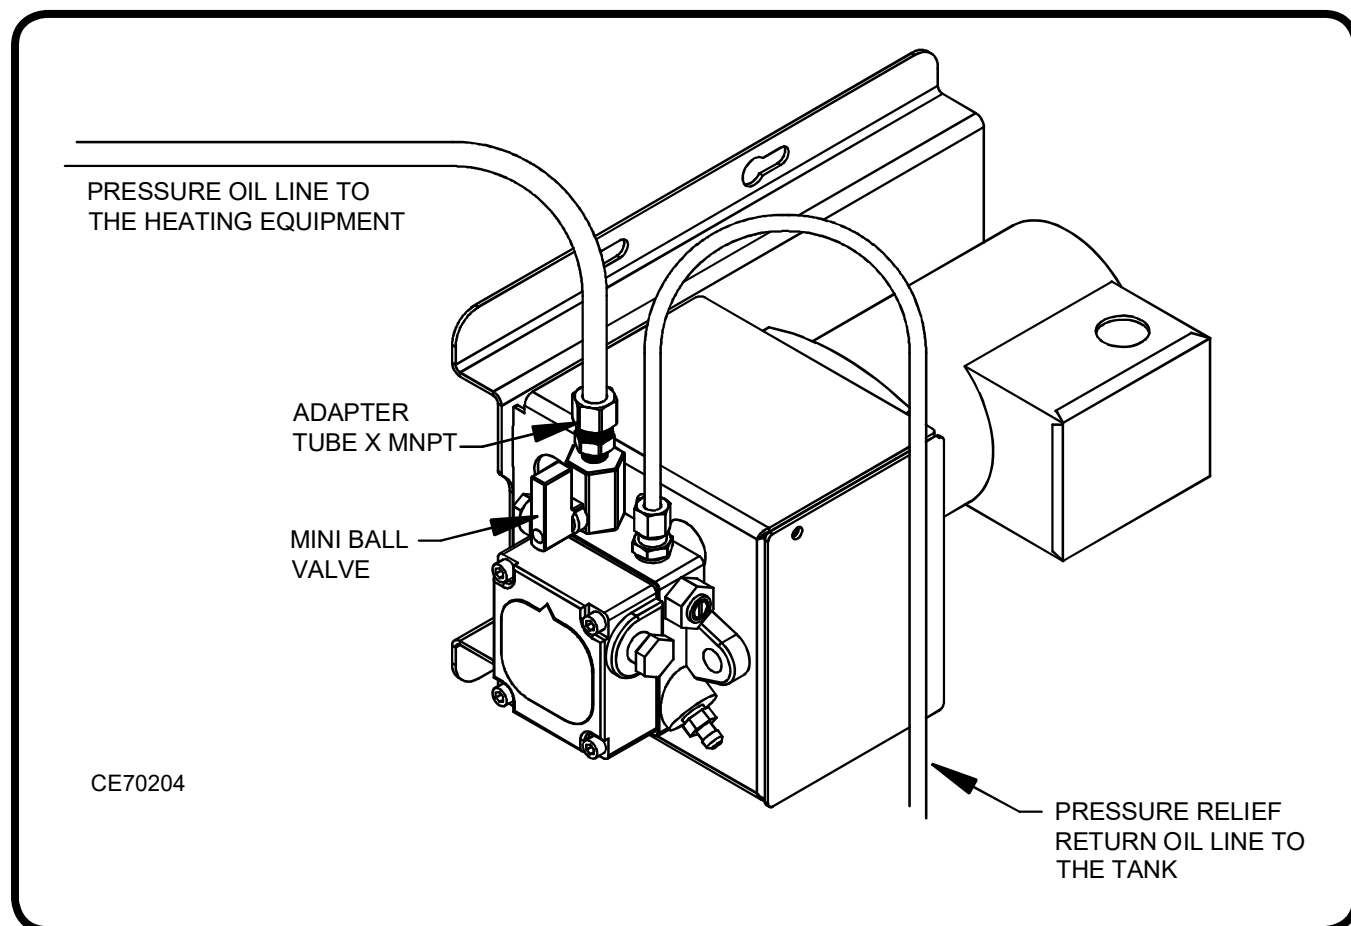

Figure 17: Metering Pump Oil Outlet Options
- (1) Refer to Figure 17.
- (2) Determine the length of copper tubing needed for the pressure line (from pump to boiler) and use the appropriate sized tubing. If the pressure line is less than 100 feet, 3/8" copper tubing can be used. If the pressure line is greater than 100 feet, use 1/2" copper tubing. An adapter fitting may be needed when using 1/2" copper to make the connection between the tubing fitting and mini ball valve (50039 - 1/8 MNPT x 1/4 FNPT).